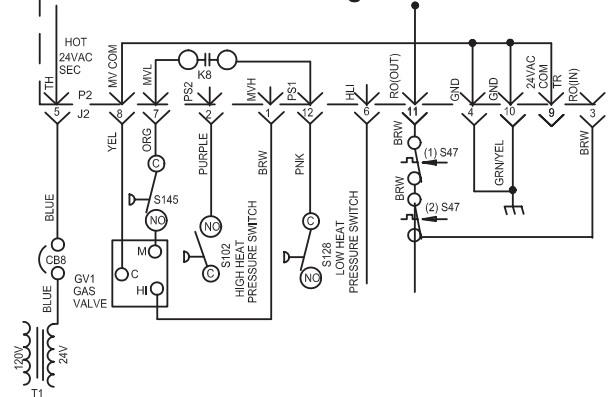

FIGURE 4
- 10 - Thread pressure switch (S145) fitting 2 to 3 turns past hand tight, then wire as shown in FIGURE 4.